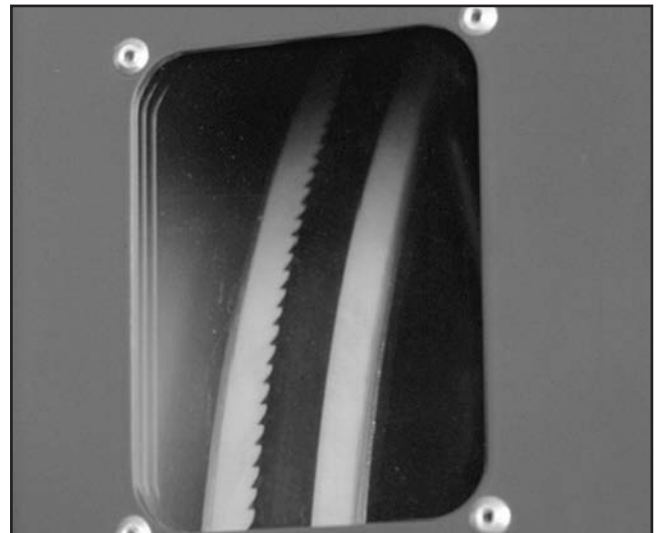

Figure 45. Blade tracking window.
2. Observe the blade tracking path through the clear window on the right side of the bandsaw, as shown in **Figure 45**.